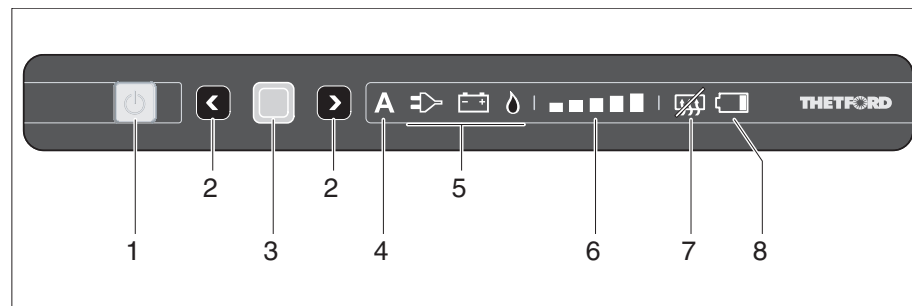

Fig. 327 Operating and display elements for the refrigerator (Thetford without SES)
- Press the button (Fig. 327,1).
- Press and hold the button (Fig. 327,1). All the lamps go out.
If automatic mode is selected, the automatic mode display (Fig. 327,4) and the best available source (Fig. 327,5) light up in the operating panel.
- Press and hold the confirmation button (Fig. 327,3).
The operating mode symbols (Fig. 327,5) begin to flash.
- Use the selection buttons (Fig. 327,2) to select gas operation and apply the selection by using the confirmation button (Fig. 327,3).
- Use the selection buttons (Fig. 327,2) to select 230 V operation and apply the selection by using the confirmation button (Fig. 327,3).
- Use the selection buttons (Fig. 327,2) to select 12 V operation and apply the selection by using the confirmation button (Fig. 327,3).
- Press the confirmation button (Fig. 327,3) again.
The cooling level display (Fig. 327,6) begins to flash.
- Use the selection buttons (Fig. 327,2) to select the desired cooling level and apply the selection by using the confirmation button (Fig. 327,3).